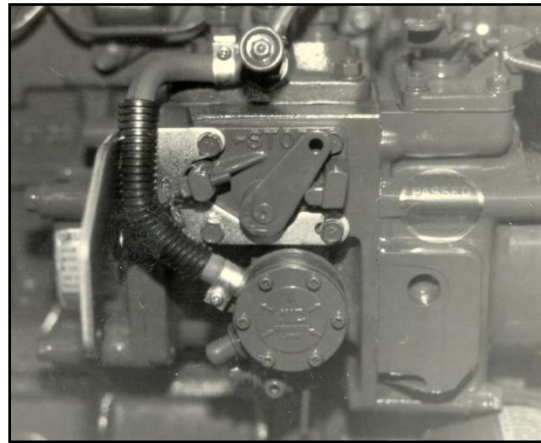
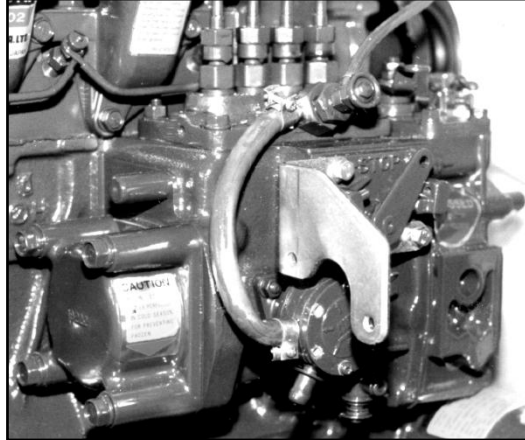

Figure 5. Fuel Hose Routed Inside Mounting Bracket
Figure 7. Rotation of Face Plate
- 1.1 The fuel hose between the transfer pump outlet and the injection pump inlet banjo fitting must be routed *inside* the solenoid mounting bracket as shown in **Figure 5**. You should be able to use the existing Kubota fuel hose already on the engine. If not, a replacement hose is supplied in the kit.
- 1.2 Slide the protective nylon conduit supplied with the kit over fuel hose to position shown in **Figure 5**. This will protect the hose where it rubs on the inside of the bracket. Cut the conduit to a size that will cover the length of the hose.
- 2.3 Remove the six screws from fuel pump face and rotate face plate 60° counterclockwise to position shown in **Figure 7**.
- 2.5 Attach new, longer hose provided with the kit between fuel pump outlet port and injection pump inlet port. Cut hose length as necessary. Secure firmly with existing hose clamps. See **Figure 7**.
- (b) Route fuel hoses to the rear of the engine as shown in **Figure 5** or **Figure 7** if the transfer pump has a removable cover.